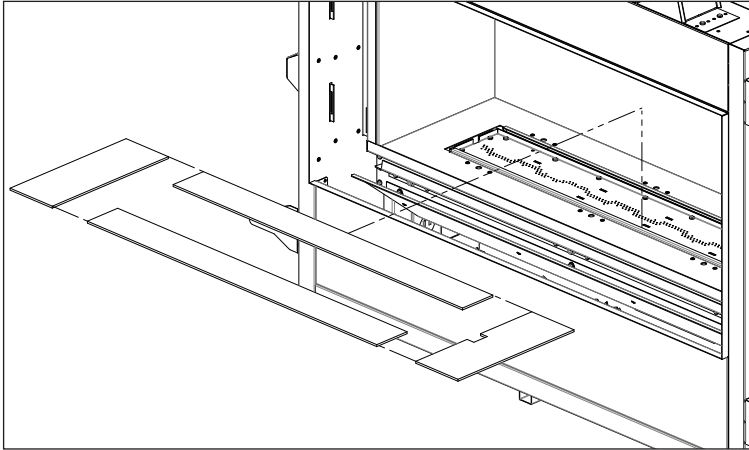

Figure 56: Burner Bezel Placement
2. Place the bezels directly onto the burner platform as shown in Figure 56. No fasteners are required.